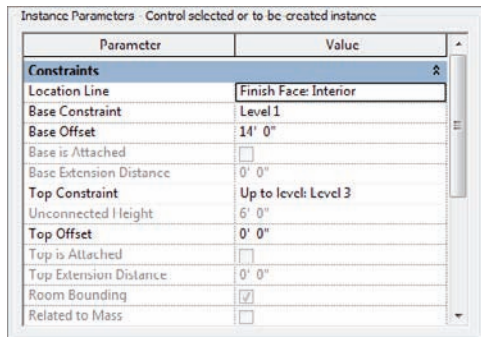

FIGURE 9.28 Setting the Top Constraint and Bottom Offset
12. In the Properties dialog box, set Base Offset to 14'-0" (4200mm), as shown in Figure 9.28.
13. Set Top Constraint to Up To Level: Level 3 (see Figure 9.28).